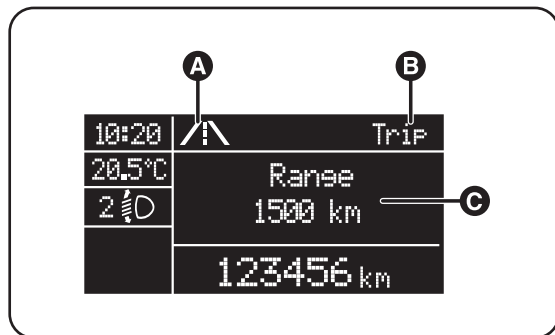

fig. 11
- animated icon in the upper part of the display (A-fig. 11);
- word "Trip" (or "Trip A" or "Trip B") (B);
- name, value and unit of measure of the selected parameter (e.g. "Range 1500km") (C).